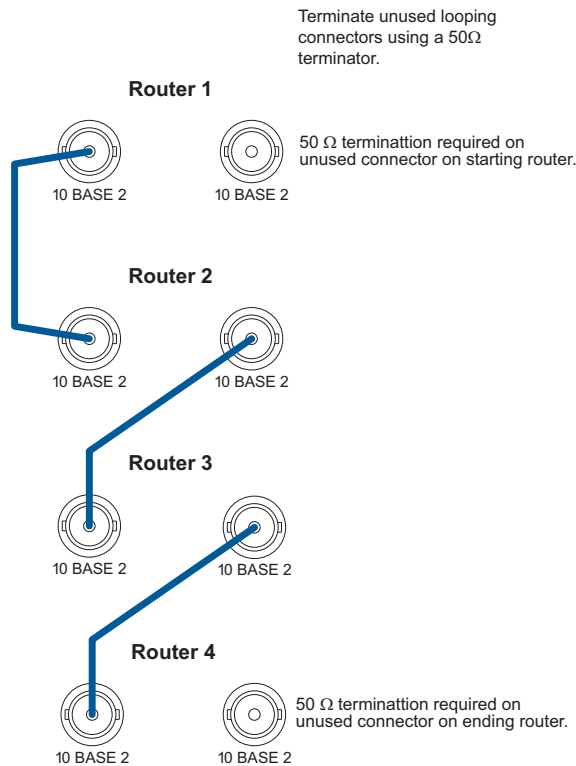

Figure 2-23. Control System Expansion Connections Between Routers
- On **Router 1** (the router directly connected to the control system), connect to the *left* '10 BASE 2' connection using a 50Ω BNC connector and coaxial cable, as shown in Figure 2-23.
- Connect the other end of the cable to the *left* '10 BASE 2' connection on **Router 2**, using a 50Ω BNC connector, as shown in Figure 2-23.
- On **Router 2**, connect to the *right* '10 BASE 2' connection using a 50Ω BNC connector and coaxial cable, as shown in Figure 2-23 on page 63.
- Connect the other end of the cable to the *left* '10 BASE 2' connection on **Router 3**, using a 50Ω BNC connector, as shown in Figure 2-23 on page 63.
- On **Router 3**, connect to the *right* '10 BASE 2' connections using a 50Ω BNC connector and coaxial cable, as shown in Figure 2-23 on page 63.
- Connect the other end of the cable to the *left* '10 BASE 2' connection on **Router 4**, using a 50Ω BNC connector, as shown in Figure 2-23 on page 63.